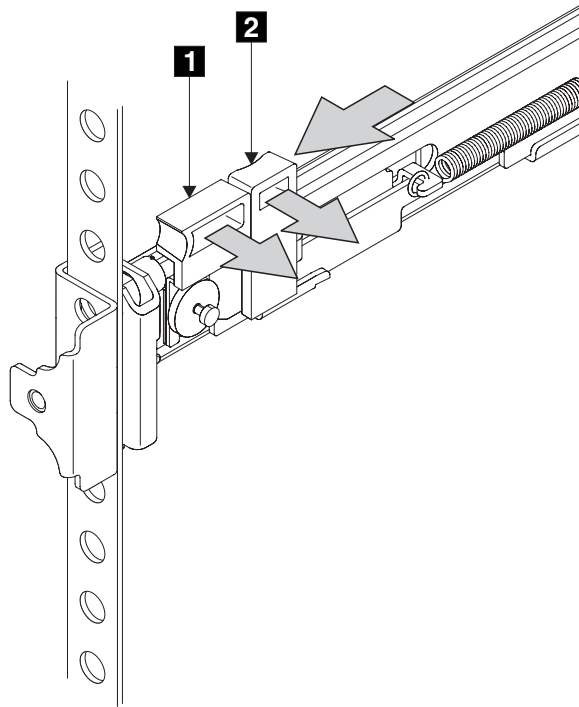

Figure 84. Closing the latch-lock carrier assembly
11. Push the latch lock **2** (Figure 84 on page 211) away from the rail to release the carrier. The latch-lock carrier slides toward the front of the rack, and the locating pins project through the holes that are in the front flange and in the front rail bracket.